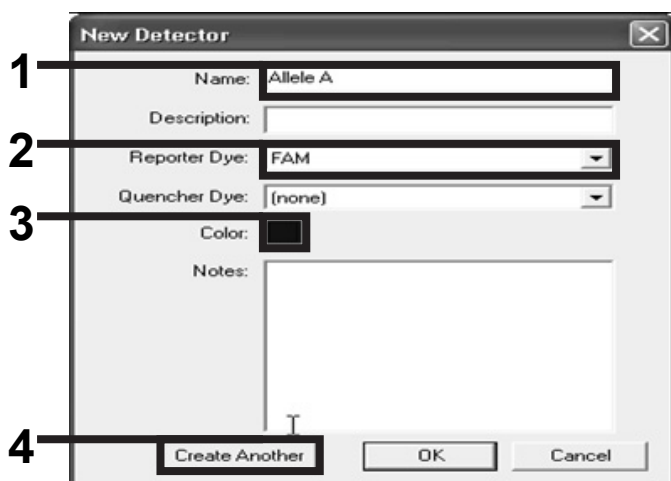

Figure 15. Creating detectors.
16. In the “New Detector” dialog box, type *Allele A* in the “Name” field (Figure 15). Leave the “Reporter Dye” set to “FAM”. Click the “Color” button, select a color, and then click “OK” (Figure 15). Click “Create Another” (Figure 15).